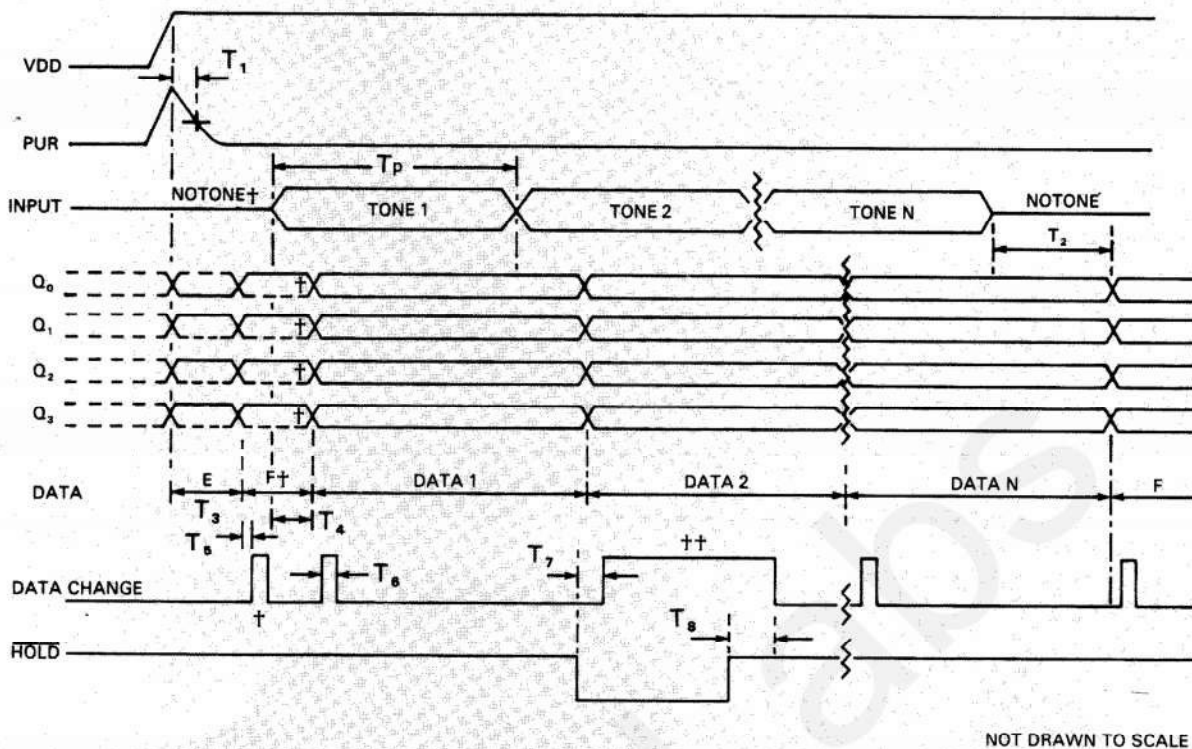

Fig. 5 FX003* Timing Diagram (See References)
- Delay from change of input (tone applied/removed) to change at Q₀ - Q₃ outputs (see fig. 5).
- Included in T₂. Minimum tone gap requirement for 'notone' recognition. Outputs = F after delay. (see fig. 5).